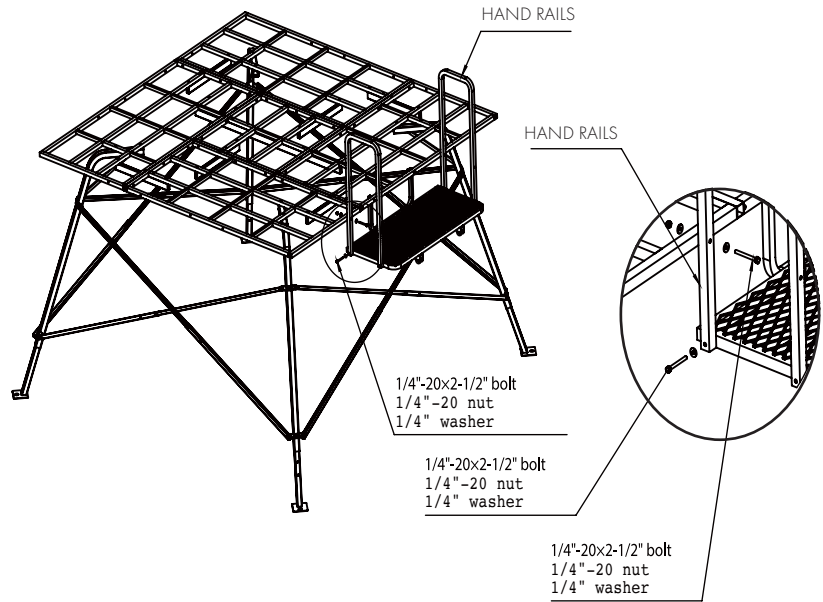

FIGURE 10
Attach the two **HANDRAILS (#12)** to the **FRONT PLATFORM (#11)** and the assembled platform by using (4) 1/4"-20 x 2-1/2" bolts, (4) 1/4" lock nuts and (8) 1/4" flat washers (Figure 10). **Be sure to not over tighten.**